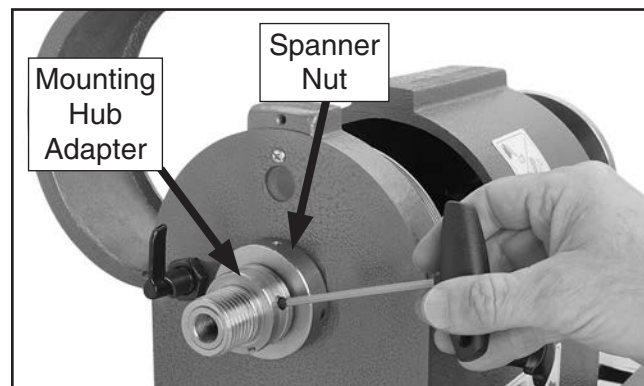

Figure 57. Loosening set screw on outboard mounting hub adapter.
3. Loosen the set screws on the outboard mounting hub adapter (see **Figure 57**), place a hex wrench in one of the spanner nut set screws to hold the nut in place, then unthread the mounting hub adapter.